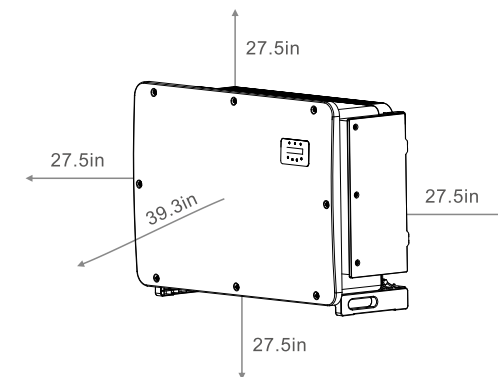

Figure 3.1 Distances required between inverters
- If multiple inverters are installed on site, a minimum clearance of 27.5 in should be kept between each inverter and all other mounted equipment. The bottom of the inverter should be at least 27.5 in above of the ground or floor (see Figure 3.1).